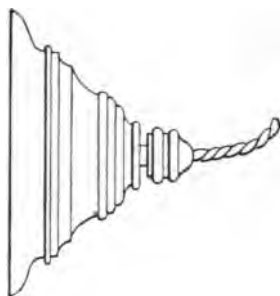
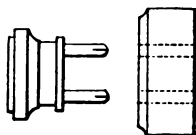

Fig. 55.—Wall Connection for Lamp.
Fig. 56.—Portable Lamp Connector carrying Cut-out.
*Plug or Wall Terminal for Portable Lamp.*—The usual form of these is represented in Fig. 55. The most useful and safe form, however, for store-rooms and other ship purposes, is shown in Fig. 56, in which the plug, being large, carries a cut-out fuse, a very necessary precaution, because flexible leads are a source of much trouble, and by chafing into contact frequently cause a fire.